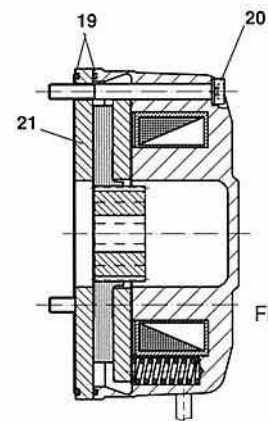

Fig. 3
- 1.4 Attach the brake by means of the fixing screws (8) and the flat packings attached in the factory at the bearing bracket of the motor or at the machine wall (**tightening torques according to table 1 must be noticed**).
* only for sealed design (Fig. 3)